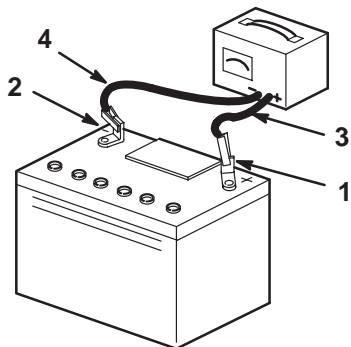

Figure 37
4. When the battery is fully charged, unplug the charger from the electrical outlet, then disconnect the charger leads from the battery posts (Fig. 37).